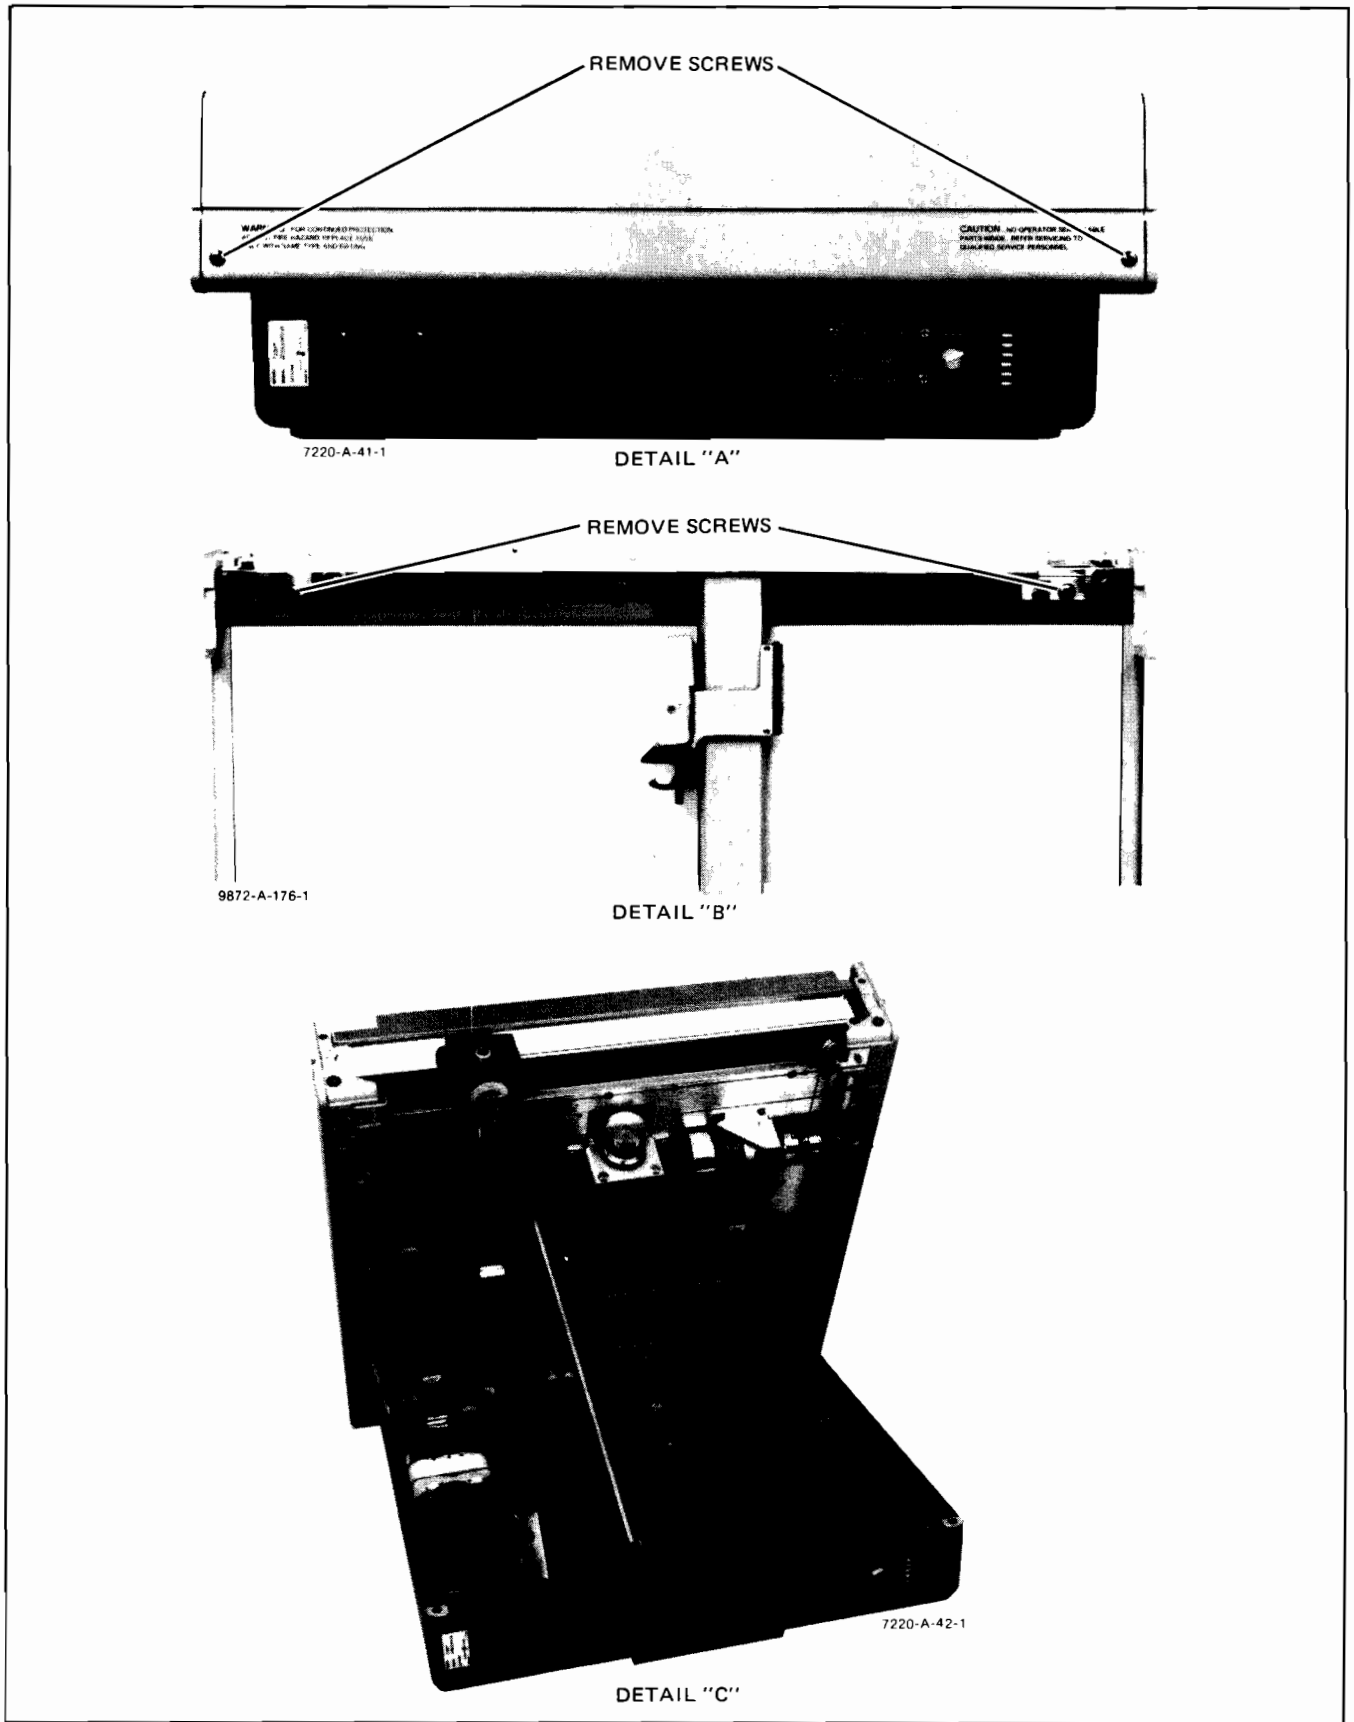

Figure 6-14. Opening the Plotter
- a. Unscrew the two 6-32 trusshead screws, and remove the rear hood. See Figure 6-14, Detail A.
- b. Unscrew the upper deck locking screws. These screws are captive and should not be removed from the upper deck. See Figure 6-14, Detail B.
- c. Raise the upper deck, and secure the latching bar into its bracket. See Figure 6-14, Detail C.